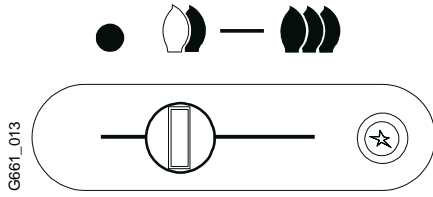

Fig. 6
- e) Move the gas control slide to the ignition position. See fig. 6.